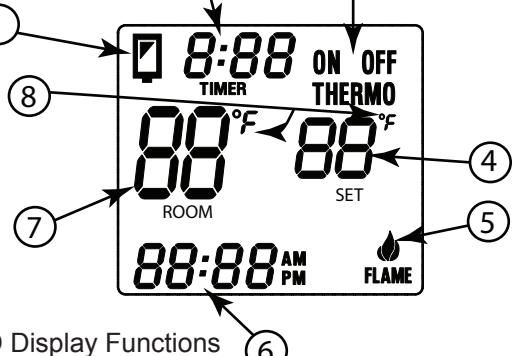

Fig. 2 LCD Display Functions
The transmitter operates on (2) AAA size 1.5DCV batteries. It is recommended that **ALKALINE** batteries always be used for longer battery life and maximum operational performance. **IMPORTANT:** New or fully charged batteries are essential for proper operation of the multi-function transmitter. Insert (2) AAA size 1.5DCV batteries into the battery compartment on the back of the transmitter, positioning the (+) and (-) ends of the batteries as indicated on the casing. When the batteries are inserted, the screen in figure 2 (with similar numbers) will display.
**Note:** If a LOW battery icon appears on the screen, check the position of the batteries. See Fig. 2.